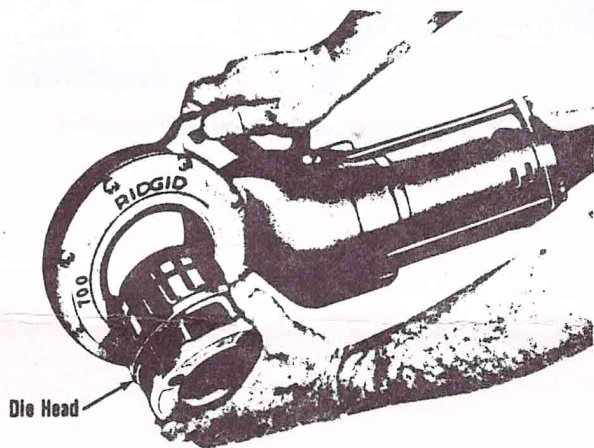

Figure 3. Installing No. 12-R Drop Head Die Head.
1. Push Die Heads or Adapters, spline end first, squarely into Power Drive Face Gear until spring-loaded Adapter Pawls catch securely (Fig. 3).